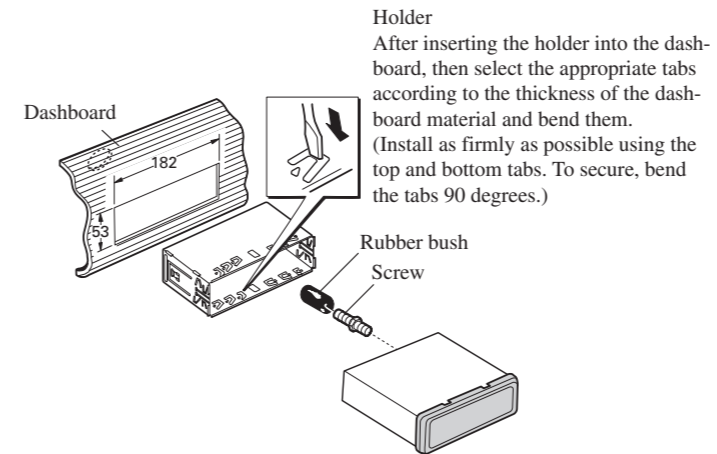

Fig. 8
**Installation with the rubber bush (Fig. 8)**